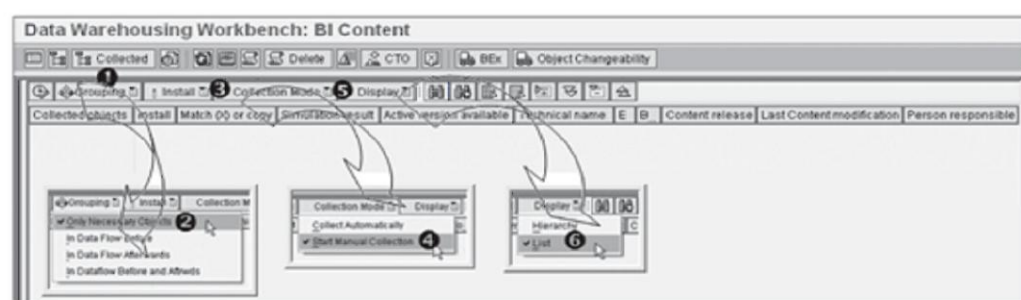

Figure 2.27 Configuring Various Options Before Activating Business Content
The most important option, which can significantly affect the number of objects that can be activated by the system, is Grouping. Open the Grouping menu, as shown in ❶ of Figure 2.27, to see the four options available (❷):
This option activates the minimum number of objects required to activate the selected object. Thus, if you've selected one InfoObject A, and InfoObjects B and C are attributes of InfoObject A, the system activates all three objects. For this example, we've selected this option as shown in ❷ of Figure 2.27.
To activate any object, you must first select it from the list and drag and drop it over the Collected Objects area. There are two collection modes, as shown in ❹ of Figure 2.27:
This option can be used to select multiple objects (one by one). Drag and drop required objects into the Collected Objects area, and click on the Execute icon (⏏) to start the collection. Because we're selecting single objects in our example, either option will work. We've selected Start Manual Collection, as shown in ❺ of Figure 2.27.
The Display option (❻ of Figure 2.27) shows the collected objects in two different ways: Hierarchy, in which collected objects are shown in a hierarchical fashion; and List, in which collected objects are shown in list fashion. We've selected List, as shown in ❼ of Figure 2.27.